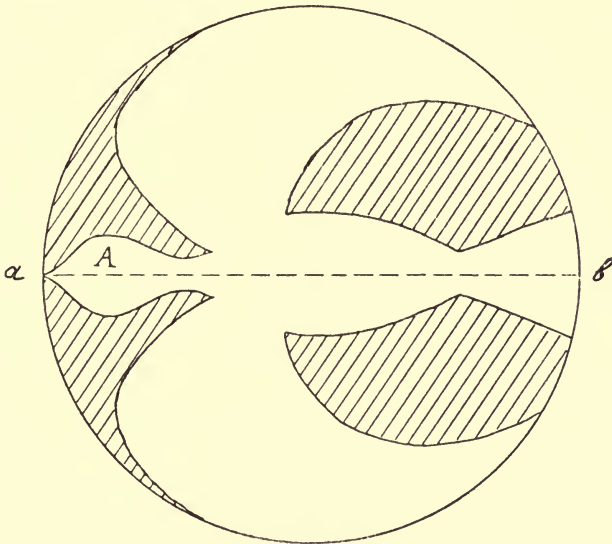

FIG. 476
In making one's first glider one cannot do better than copy a bird. On a piece of paper draw a circle, fold it in half, draw a bird on one half, as in Fig. 476, cut it out, when the paper is opened it will appear as in the figure. If this bird is thrown head first toward the ground, it will probably fall. If two little bits of cardboard are gummed on each side of his head, he will make a better flight and land on the ground after making a gentle curve. A still better bird may be cut from cardboard, a half cut is then made along *ab* to bend it, and the head is weighted with sealing-wax. How well this bird flies depends on the weight, and to some extent on the shape of the bird. Birds of various shapes and with different amounts of sealing-wax should be tried, until one is made that glides to the ground in a long, graceful curve.
(1) Draw the bird in a circle as already explained, this ensures that the wings will be exactly balanced.
(2) If the head in Fig. 476 is not long enough for a graceful flight, a longer head cut from cardboard can be pasted on.
(3) If the bird dives quickly down head first, you know that the head is too heavy, or the neck too long.